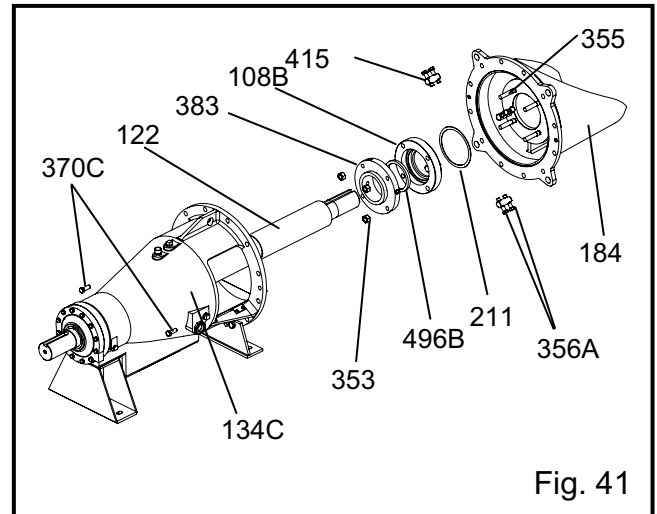

Fig. 41
18. Be sure all gland flush tubing is disconnected. The mechanical seal (383) is removed from the stuffing cover (184) by removing the seal nuts (353) and pulling the seal away from the stuffing box cover (184). It is unnecessary to remove the gland studs (355) unless they are damaged. If the seal includes a restrictor bushing (496B) and optional adapter (108B) remove these now. Remove and discard the adapter gasket (211). Next remove the stuffing box cover (184) by removing (2) screws (370C) that secure the stuffing box cover (184) to the bearing housing (134C). Remove the stuffing box cover from the bearing housing. On larger pumps use a sling or hook and chain to securely support the weight of the stuffing box cover during removal. Remove the adjusting bolts (356A) and all four adjusting lugs (415). Be careful not to scuff or scar the pump shaft (122) during removal, see Fig. 41.